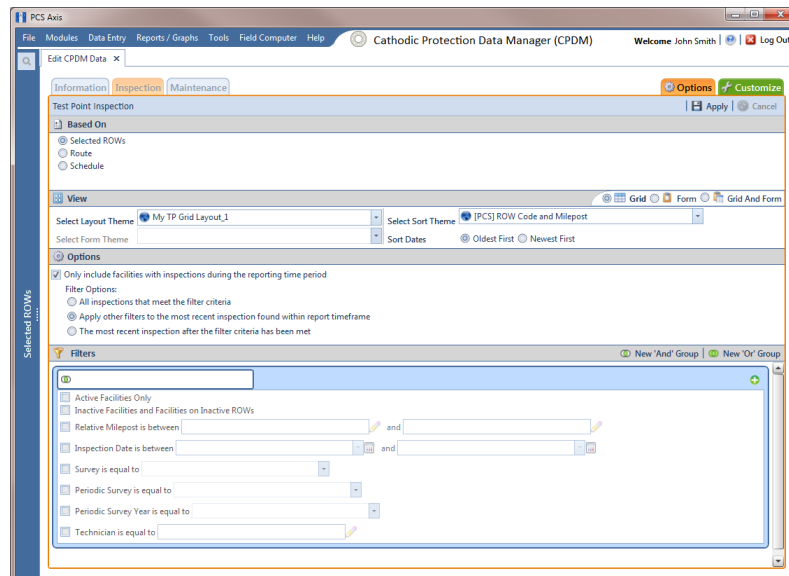

Figure 8-35. Options
- 7 Click  **Save**, then click the **Options** tab  to open the options page (Figure 8-35).